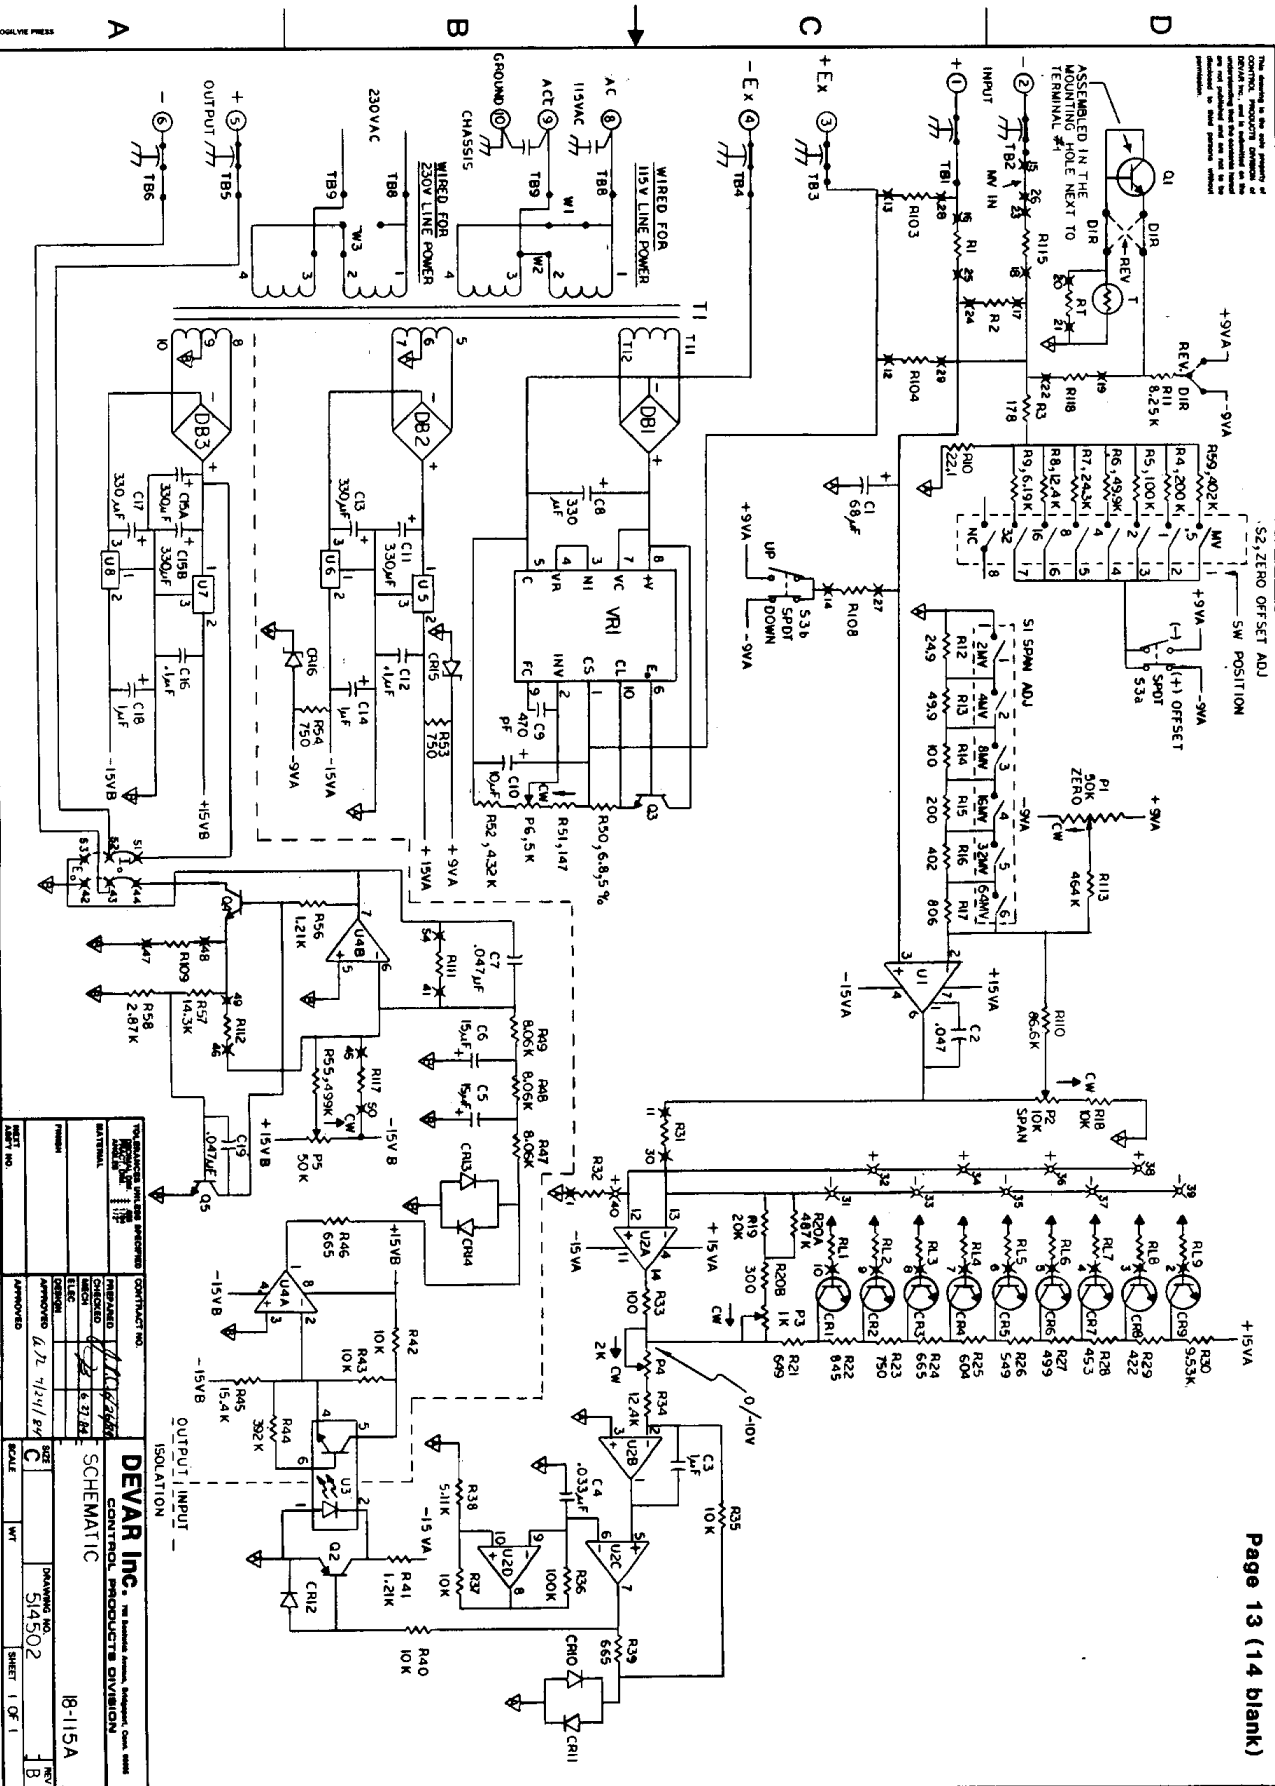

FIGURE 5-1
- a. Figure 5-1 - Schematic, 18-115A Isolated Sensor Transmitter